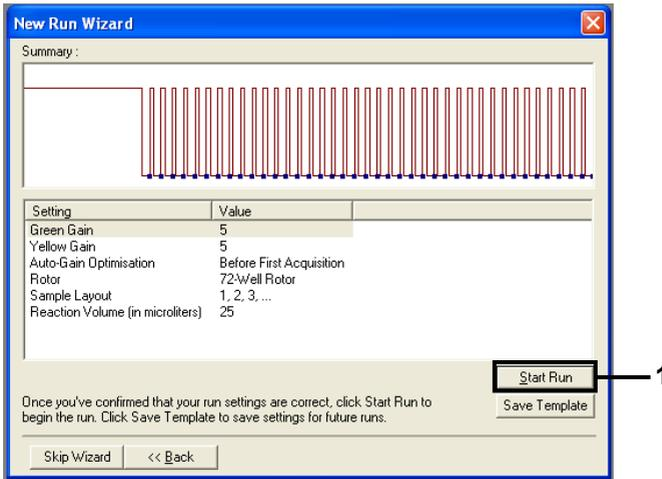

Figure 17. The “New Run Wizard” dialog box and summary screen. (1 = “Start Run”)
16. Check the summary and click **Start Run** to save the run file and start the run (Figure 17).